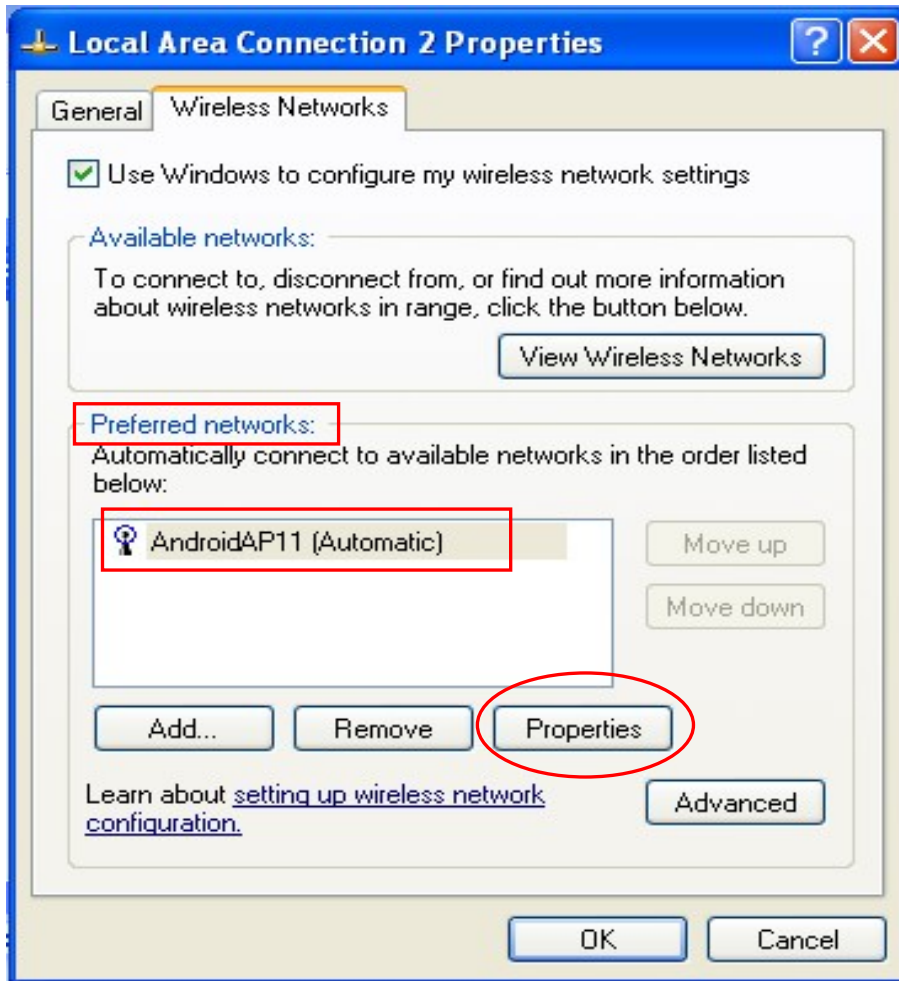

Figure 8
- (3) Select the current wireless network name in the item of “Preferred networks” and then click “Properties”. (As shown in figure 8)